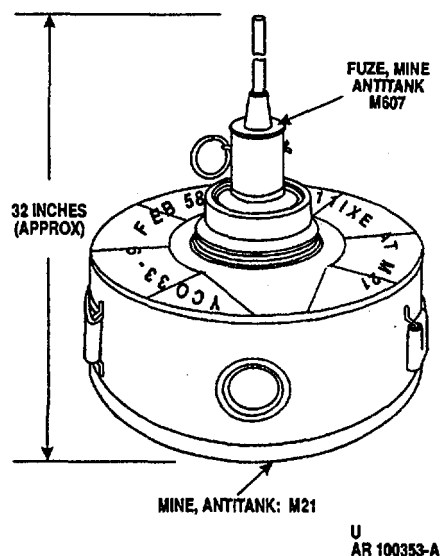

Figure 1-13. Mine, antitank: HE, heavy, M21, with fuze, mine, AT, M607.
(1) Mine assembly (fig. 1-13) consists of a cylindrical, steel body which contains a high-explosive charge, a specially-shaped steel dish, and a fuze M607 which is screwed into top of mine. It is effective against the bottom of a vehicle some distance above the ground.
(2) The mine body consists of the following: